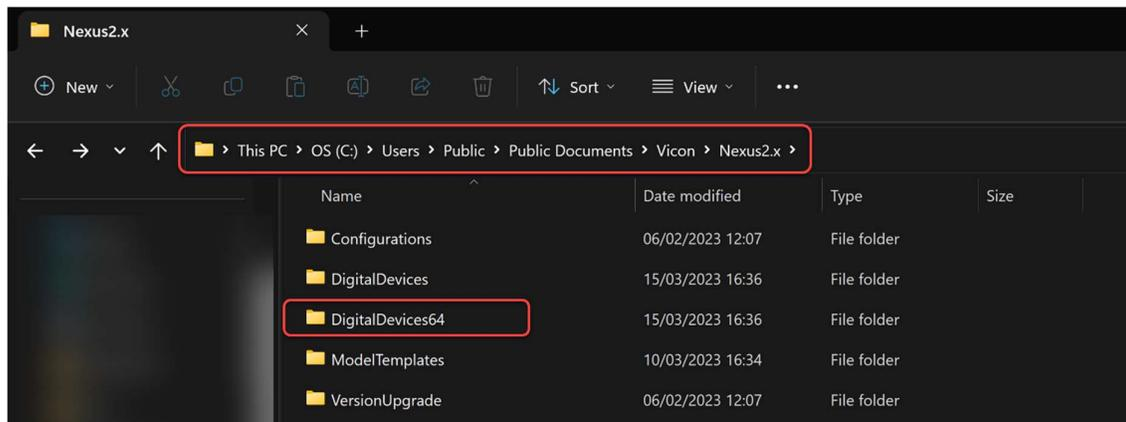

Figure 2a: Screenshot of the *DigitalDevices64* folder.
- a) Navigate to the *DigitalDevices64* subfolder within the *Nexus2.x* location. If this folder does not exist, create it as shown in Figure 2a below.